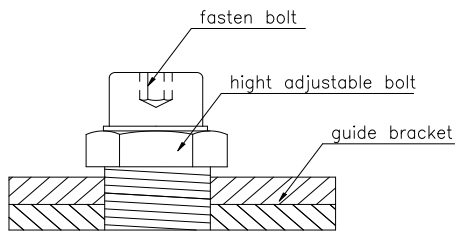
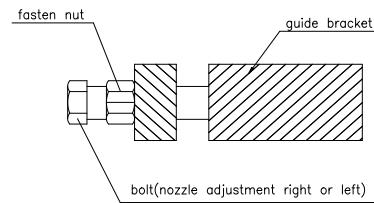

Figure 1
Figure 2
- ▶ Unscrew the fastening bolt (Fig.1) and locking nut (Fig2)